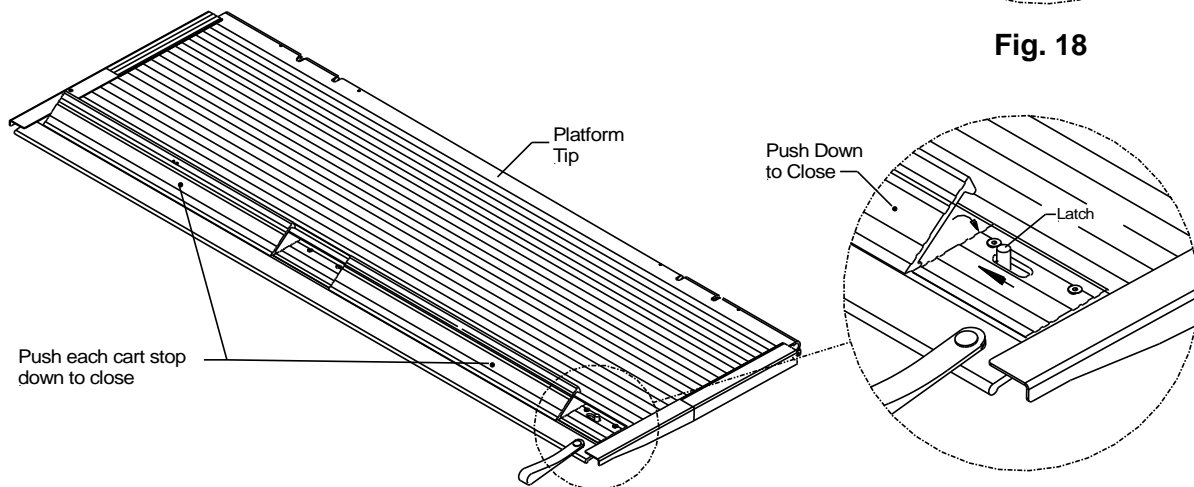

Fig. 19
2. To close the cart stops, push the cart stop latch inward towards the street side, **Fig. 19**. After the latch is in place close each cart stop by pushing each stop.